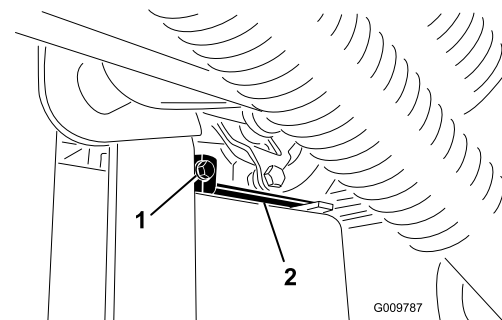

Figure 3
6. Locate the cable and cable clamp under the frame in front of the left wheel, as shown (Figure 3).
7. Loosen the cable clamp and pull the cable towards rear of the unit until tight (Figure 3).
8. Tighten the cable clamp but not so tight that it restricts the travel of the cable (Figure 3).